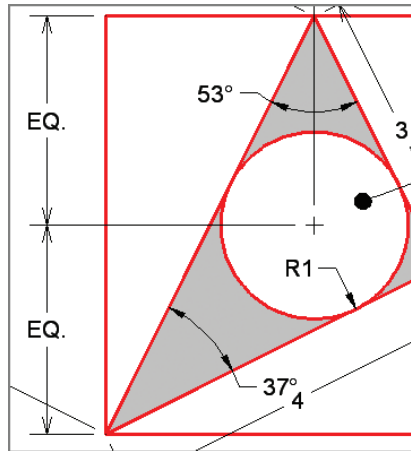

FIGURE 11.24 Editing dimension text content with DIMEDIT
8. Type **EQ** (for Equal), and then press Ctrl+Enter to end text entry mode. Select both vertical linear dimensions having values of 2.236, and press Enter. Figure 11.24 shows the result.